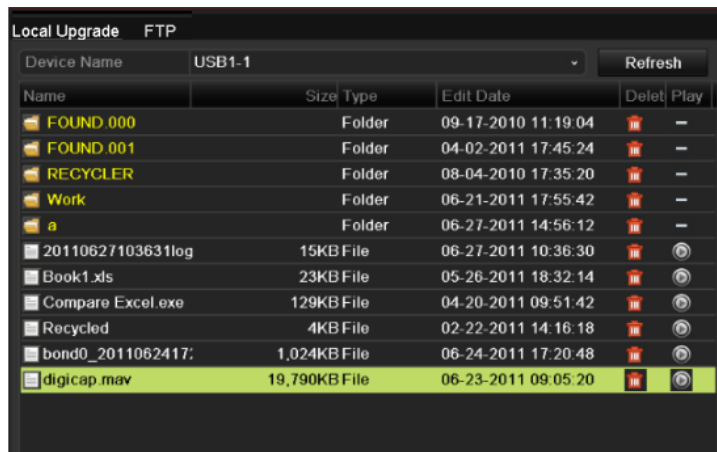

Figure 14. 21 Local Upgrade Interface
3. Click the **Local Upgrade** tab to enter the local upgrade menu, as shown in Figure 14. 21.